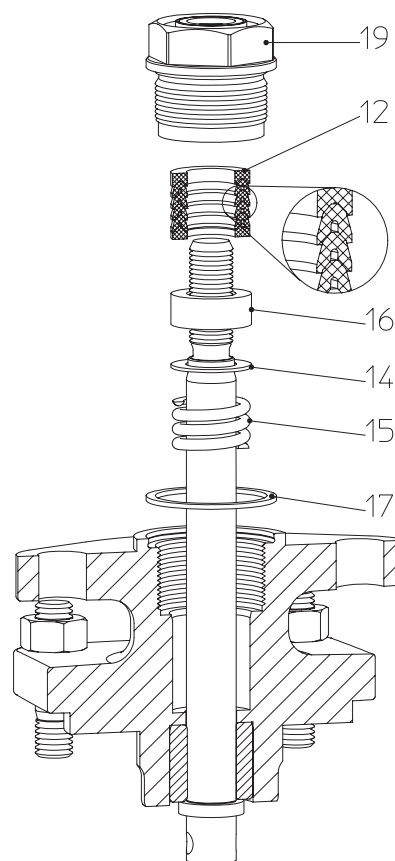

Fig. 4: PTFE V-ring unit
- When replacing the PTFE V-ring unit (pos. 12), make sure that all parts are installed in the correct order and position (refer to Fig. 4).
- The gasket (pos. 17) must be replaced.